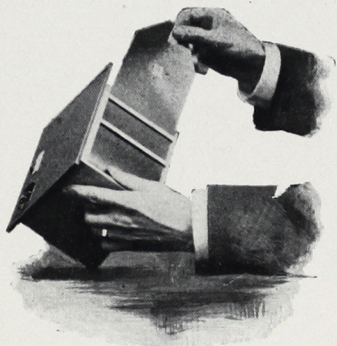

FIG. 5.
V. Cut the gum slip that holds the end of the paper and thread the black paper under both cross pieces and pull out beyond the end of Kodak eleven inches. (Fig. 5.) Pass the paper across the rollers and under the third and fourth cross pieces.